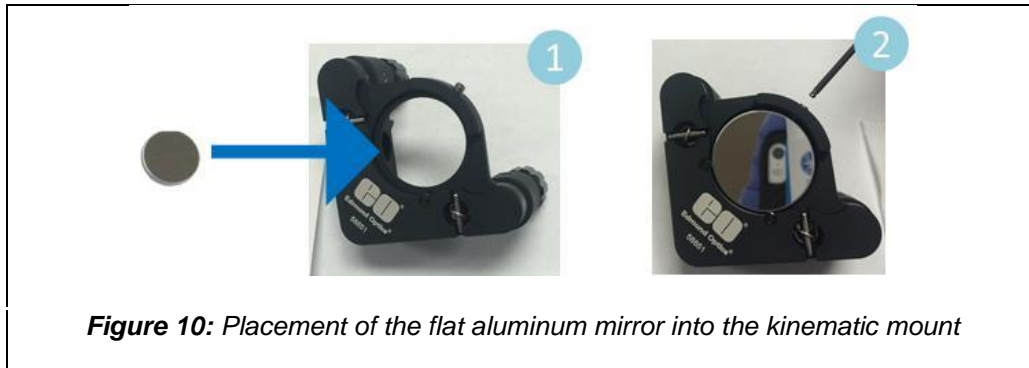

Figure 9: Picture of assembled iris diaphragm inserted into bench plate.
- The fully assembled iris diaphragm should look like the picture below, **see Figure 9**.